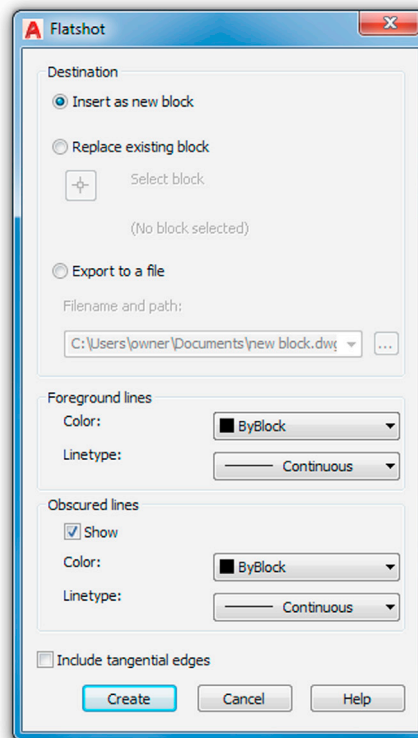

FIGURE 27.20 Flatshot dialog box.
Step 1. There is no toolbar or cascading menu alternative, but you can use the Ribbon's Home tab, Section panel, or type in `Flatshot` and press Enter. The dialog box shown in Fig. 27.20 appears.